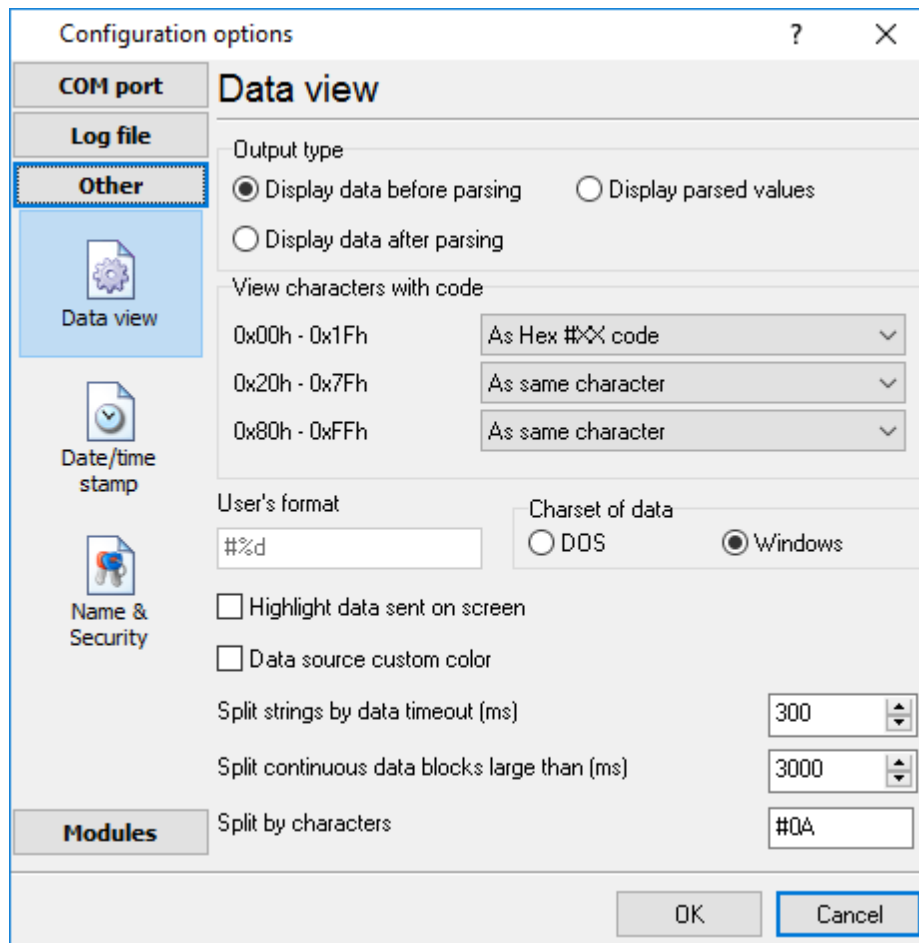

Fig. 3.1.1. Data view
8. **Split by characters** - this option allows to visually split continuous data flow in the program window using the specified symbols. For example (fig. 3.1.1), the program will use a character with the 0Ah hexadecimal code that is equal to the "LF" ASCII code.